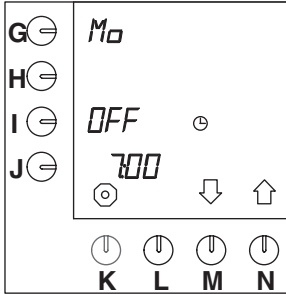

Fig. 32 Container preheating
- OFF appears on the display beside the programming key (I.) (fig.32).